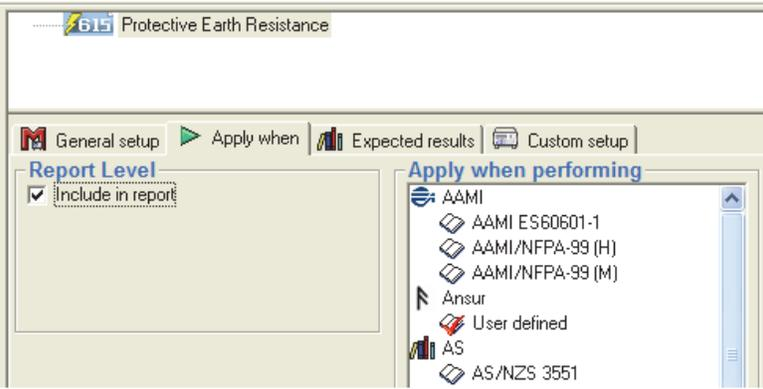

Figure 3-19. Apply When Tab
2. Click the **Apply When** tab below the list of test elements as shown in Figure 3-19.